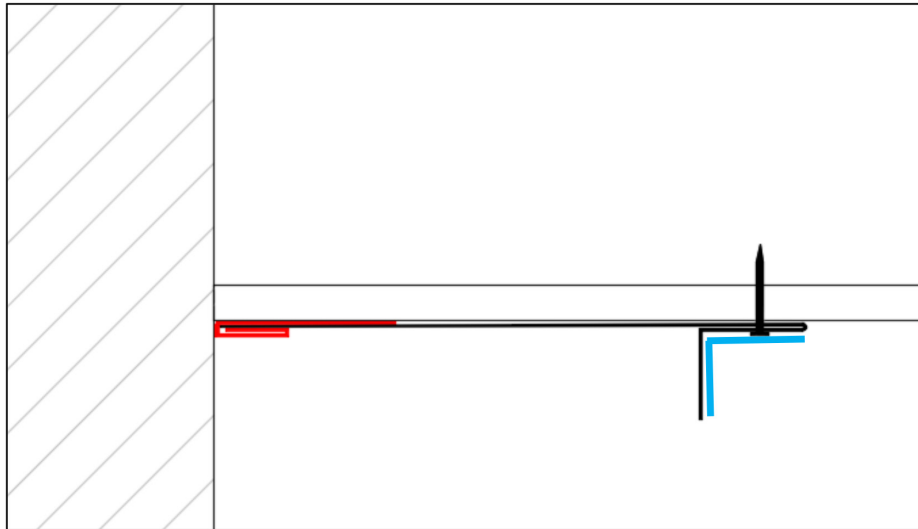

Figure 3. Plan View – Gripper in Red
- Sleeve this into the gripper piece on the Figure 3 and fix at third points along the piece. The area highlighted in blue in Figure 3 should have MS Polymer added over the height of the seam. This will ensure there is no slippage of the standing seam over time.